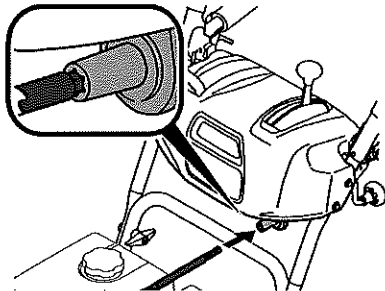

Figure 2-24
6. Insert hex end of flex shaft into chute control rod coupling under dash panel. See Figure 2-24.